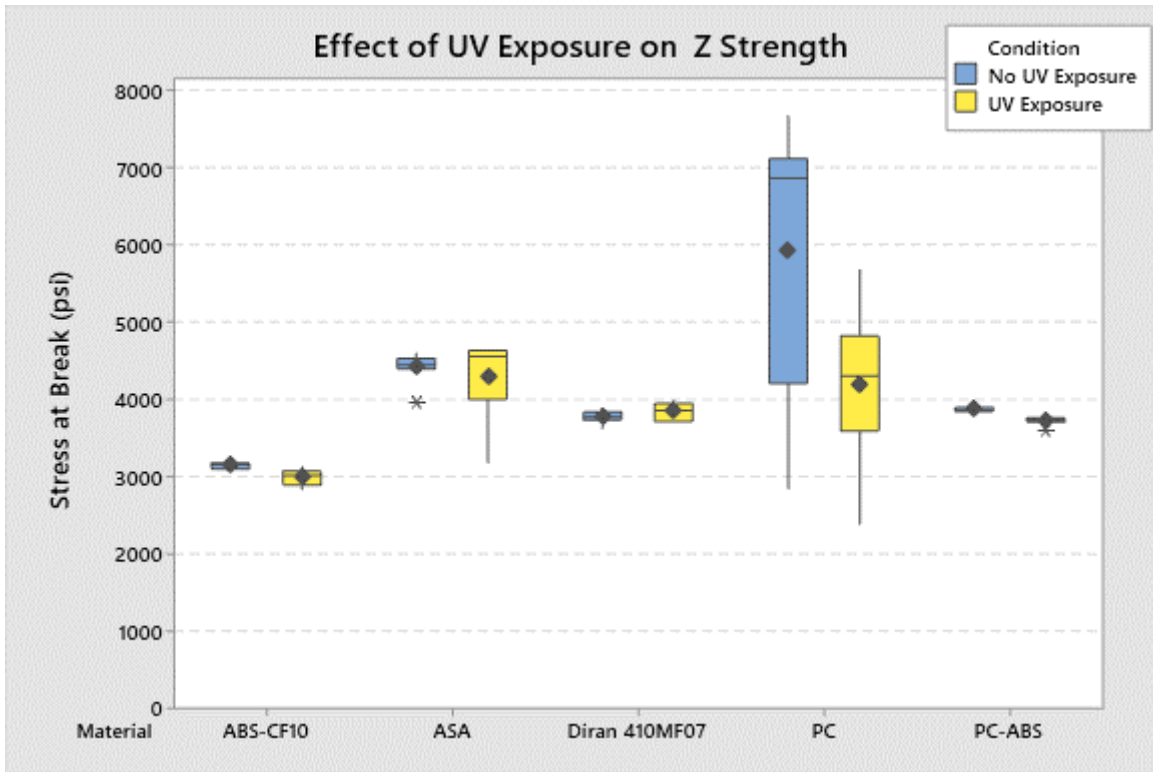
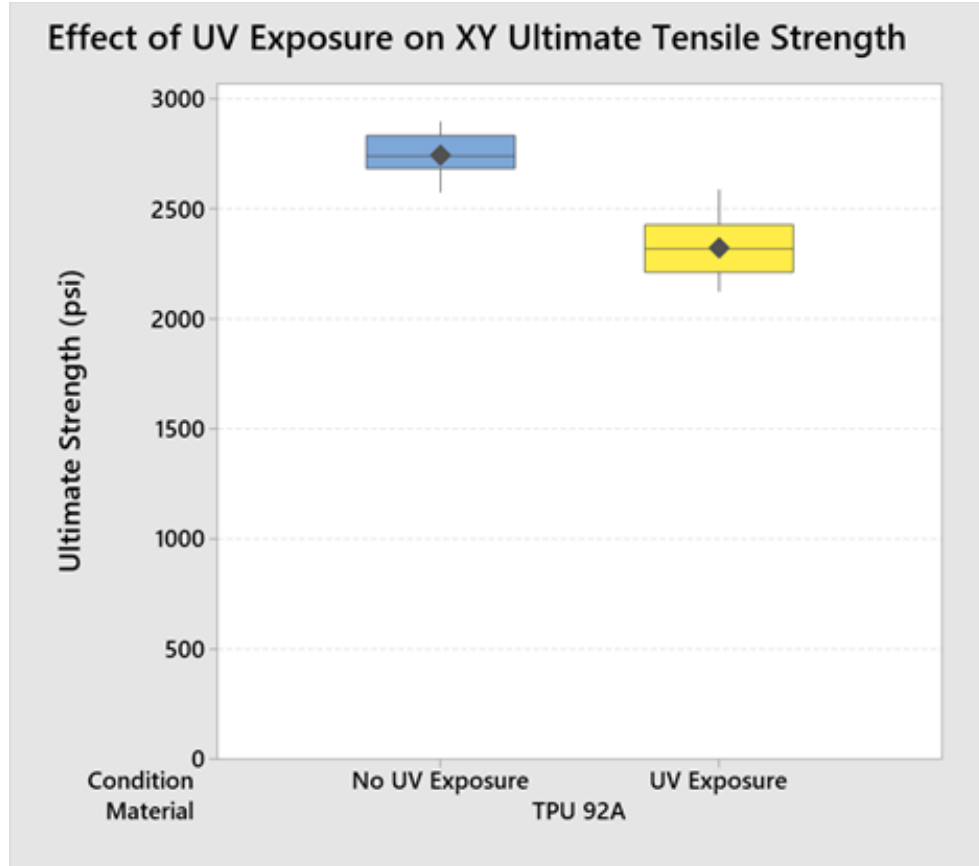

Figure 12. Effect of UV exposure on Z strength of tensile coupons.
Figure 14. Effect of UV exposure on XY UTS of TPU.
Table 3 and Table 4 contain the mechanical data summaries for each material with and without UV exposure in English and metric units respectively. Figures 12 and 13 show the effect of the UV exposure on the stress at break for the upright (ZX) coupons. Figure 14 shows the impact of UV exposure of the ultimate tensile strength of the flat (XY) TPU coupons.